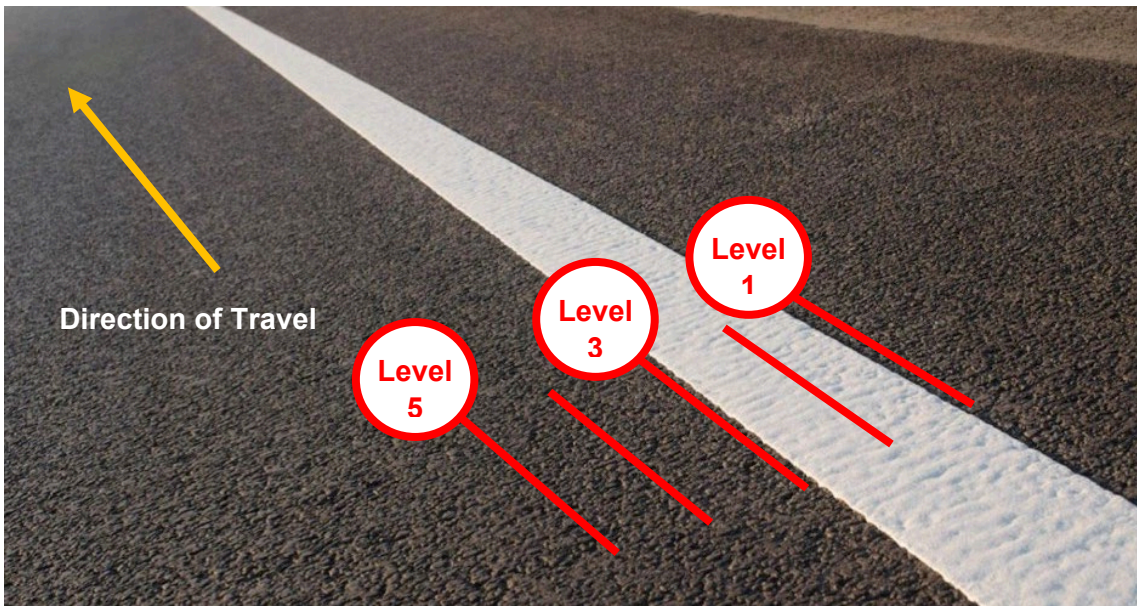

Figure 4
- **Sensitivity:** This monitors the distance to and from the lane line. Detection responsiveness generally increases as sensitivity is raised. You can set up different sensitivity levels for either direction (left or right). See figure 4 below for visual guidance (not to scale).